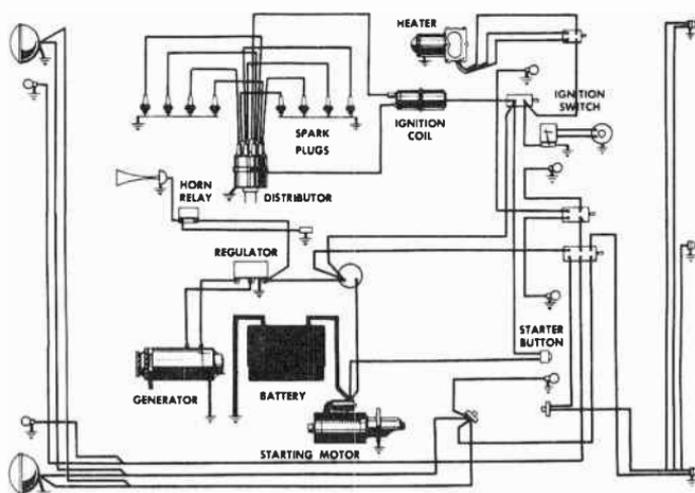

Fig. 8-30. Automobile electrical system.
The electrical power system of an automobile consists of a storage battery, charging (DC) generator, and regulator, as shown in Fig. 8-30. Since the engine drives the generator at varying speeds, its output voltage would vary widely if there were no regulator.